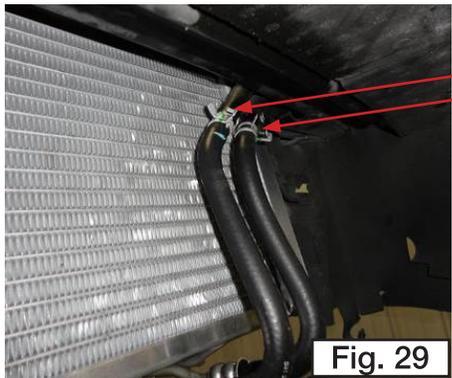

Fig. 29
28. Reattach the factory oil cooler lines to the oil cooler in the same orientation that they were removed. Make sure to orientate the hose clamps away from the core of the heat exchanger to prevent any damage (Fig. 29).